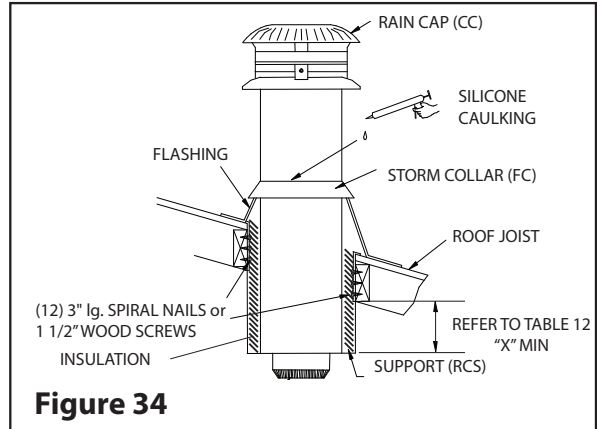

Figure 34
Step 3: Use a level to ensure the support is vertical. If the support extends above the roof, cut it flush with the top of the roof. Attach the support to the framed opening using (12)-3" spiral nails or #8 x 1 1/2" wood screws (see **Figure 34**).